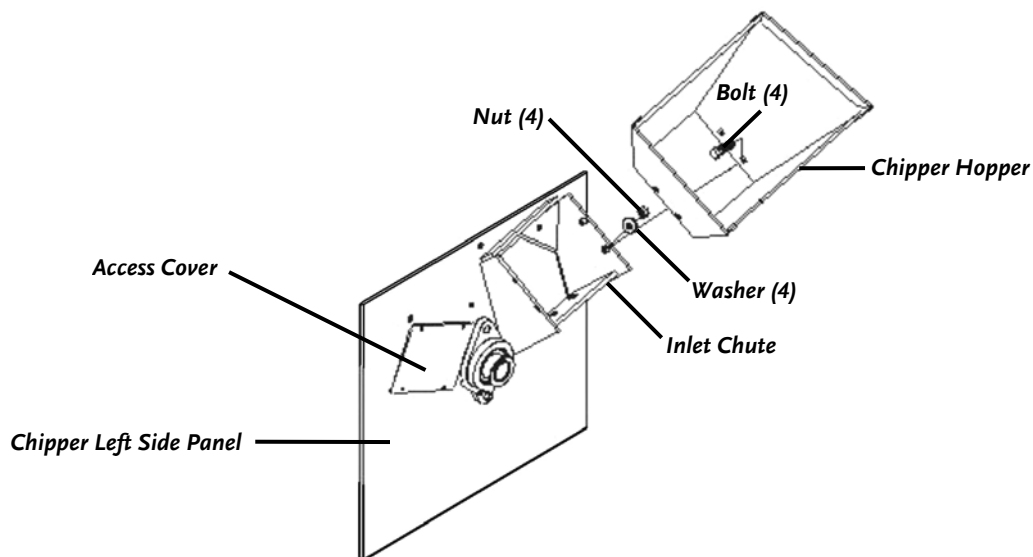

Figure 1
NOTE: Be sure to insert the bolts from the inside of the Chipper Hopper so that the threads are sticking out (Figure 1).
2. Install a Flat Washer, then a Lock Nut on each bolt. Initially install the Bolts and Nuts finger tight and then tighten the Nuts one (1) turn using two (2) 1/2" wrenches (Figure 1). Check to see that the Hopper is centered on the Inlet Chute and then tighten the Nuts securely.